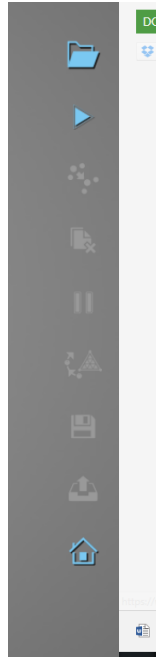
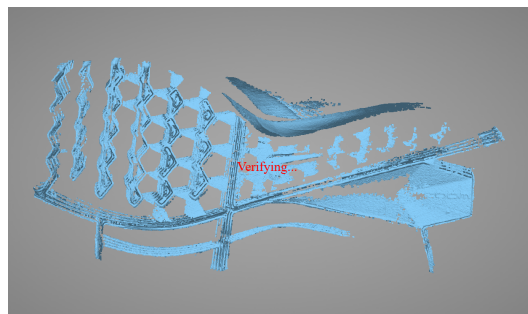

Figure 17: The play button is second from the top.
Figure 18: The scanner will run a test to see if all objects are in their correct place and if all settings are correct.
12. At this point, all settings should be correct. Select the play button located on the far left tool bar (Figure 17). At that point the scanner will begin verifying the object (Figure 18). The scan will begin if all settings and placements are correct. If verification fails, please review previous steps to make sure all settings and locations are correct.